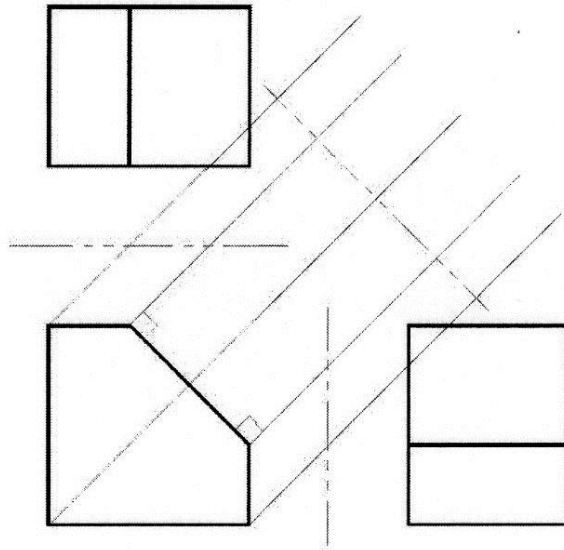

Figure 6. Adding the Folding Line Parallel to the Inclined Surface.
- d. Draw a folding line at an appropriate distance. This will act as a reference plane (Figure 6).